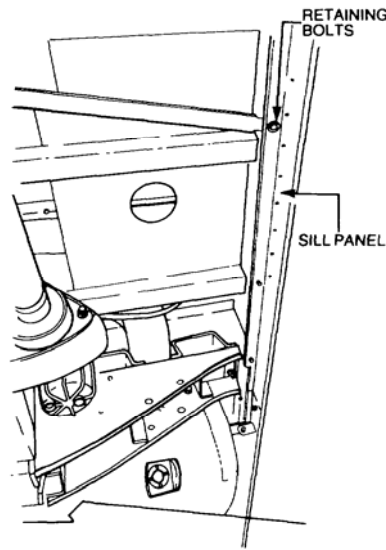

Figure 15 Removal of the Sill
- jj. Remove the bolts, nuts and washers securing the sill panel to the body and stay (Figure 15).
- q.** Install the sill panels and stays (Figure 15), and secure with the bolts, nuts and washers.